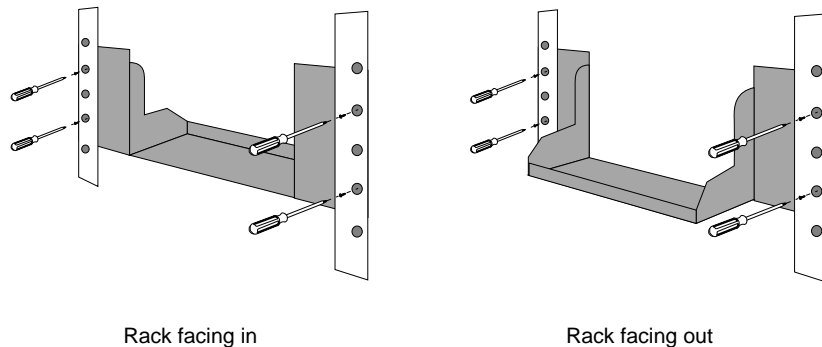

Figure 2-4 Setting up the breakout box in a rack mount unit
- Figure 2-4** Setting up the breakout box in a rack mount unit 10
There are two ways to install the bracket in a rack mount unit. You can install it so the breakout box protrudes from the front of the unit, or so the breakout box is flush with the front of the unit. Both ways are shown in Figure 2-4.